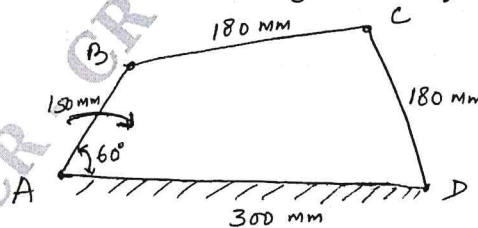

Fig.Q.4(b)
- b. In a pin jointed 4-bar mechanism as shown in Fig.Q.4(b), $AB = 150\text{mm}$, $BC = CD = 180\text{mm}$ and $AD = 300\text{mm}$. The angle of $BAD = 60^\circ$. The crank AB rotates uniformly at 100rpm. Locate all the instantaneous center and find the angular velocity of the link BC. (10 Marks)